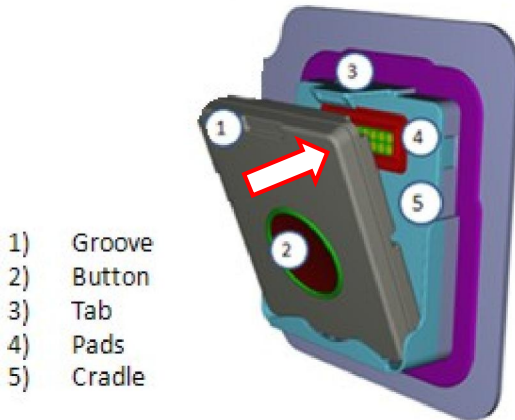

Figure 9 - Placing Brain into Cradle
1. Lift the tab (**Item 3** in Figure 9) holding the Brain in the cradle.
2. Place finger in the groove (**Item 1** in Figure 9) on the top of the Brain.